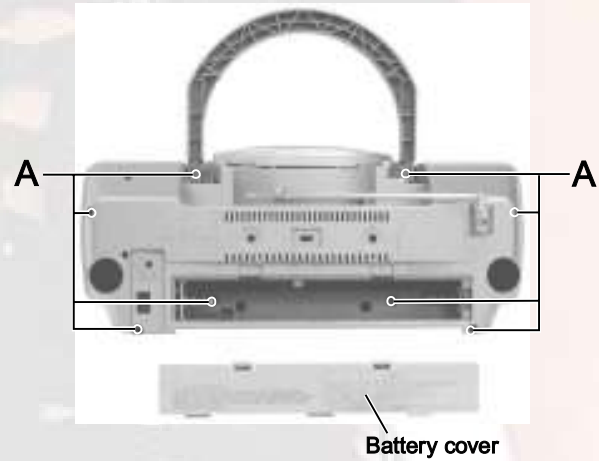

Fig.1
■ Removing the front cabinet assembly / rear cabinet assembly (See Fig.1 to 3)